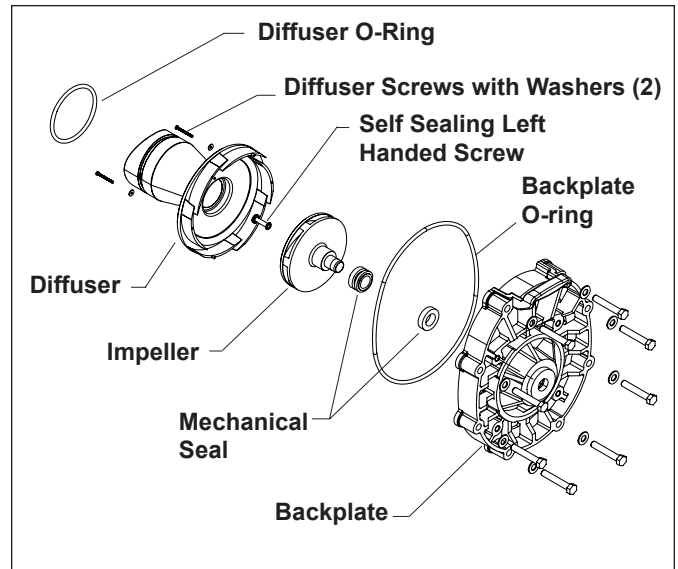

Figure 6. Diffuser and Impeller Exploded View
**NOTE** Refer to Figure 6 for an illustration of the location of the mechanical seal and impeller.